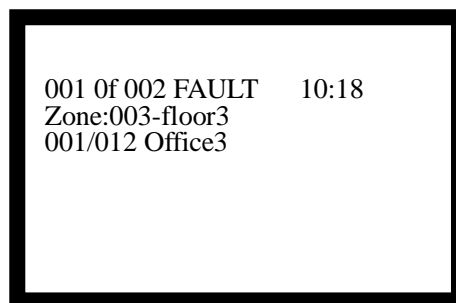
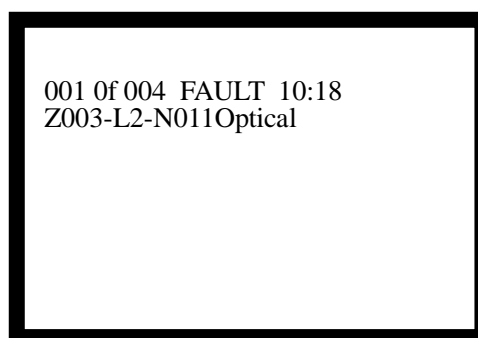

Fig. 5-5
Fig. 5-6
- The LCD displays the fault message. The fault screen is as in Fig. 5-5 in zone display mode, and as in Fig. 5-6 in loop display mode.